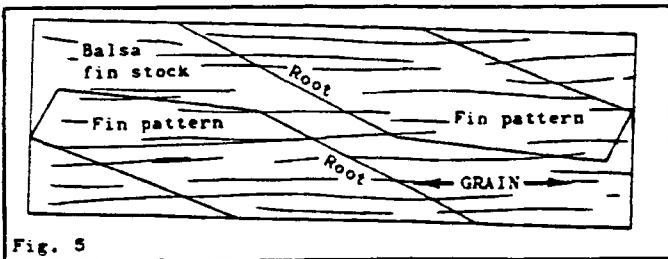

Fig. 5
(5) Cut out the fin pattern. Lay it on a sheet of balsa and align it so that the grain of the wood is exactly in line with the grain shown on the pattern. Trace around the pattern, then reposition it on the sheet and trace again. If the pattern is positioned as shown in fig. 5, it will be possible to cut two fins from each sheet of balsa. Trace out the other two fins on the other sheet of balsa. Cut out the fins using a sharp razor blade or modeling knife.